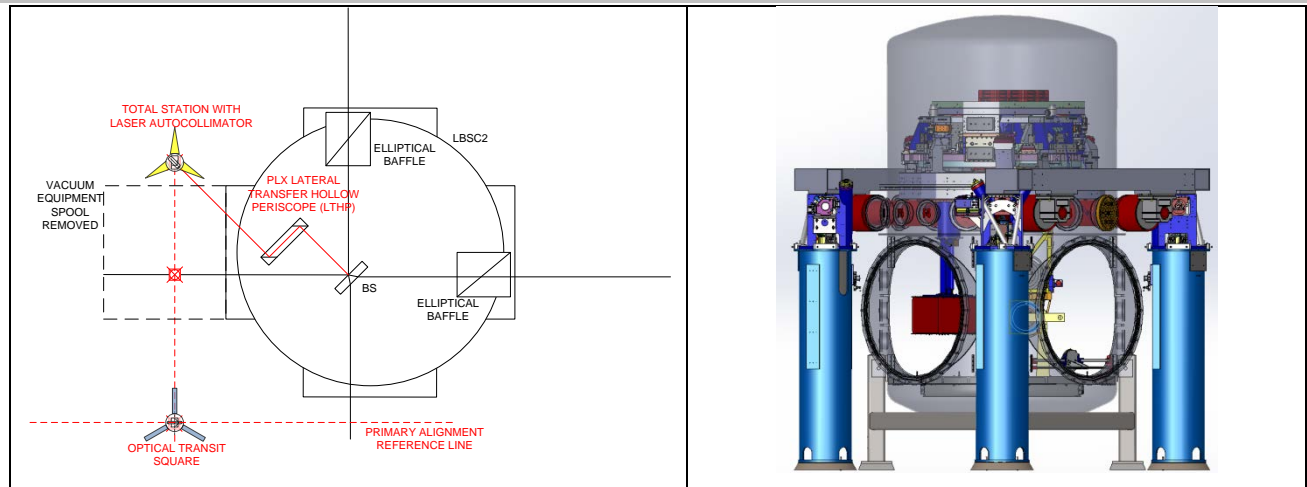

Figure 6: Drawing showing equipment setup for BS pitch/yaw alignments
- Set the LTHP on its stand so that it is approximately normal to the BS and positioned so that one line of site can see the BS surface and the other can see out the BSC door. See Figure 6.